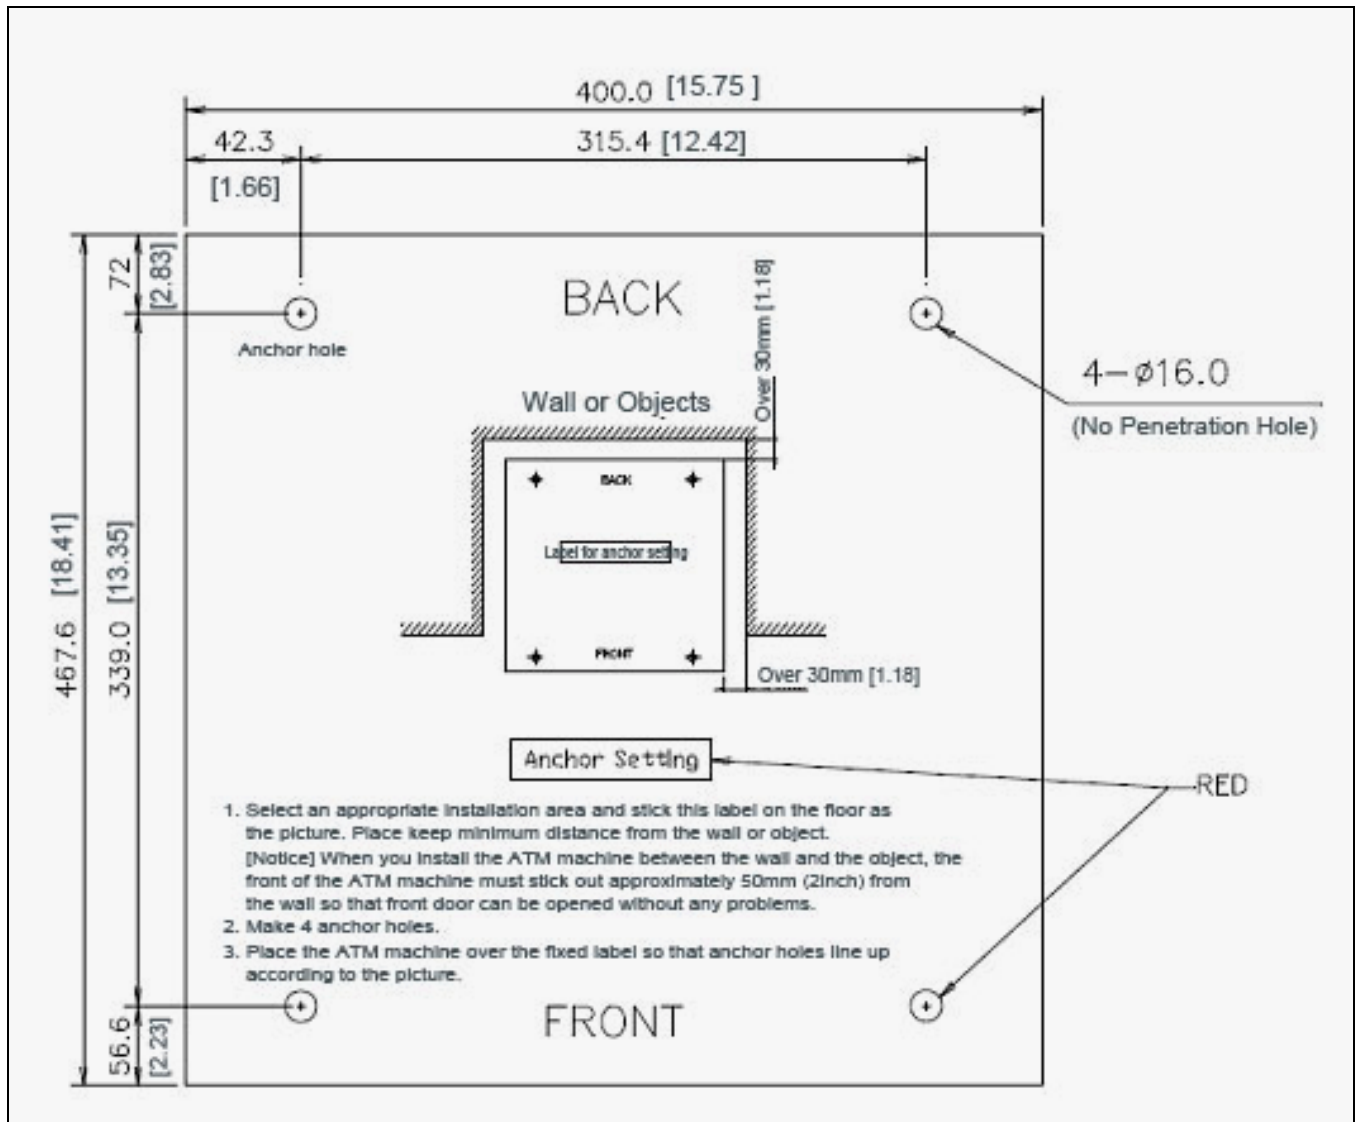

Fig. 6.3 Anchor diagram of NH-2700 ATM
- 1) Place the “Anchor bolts locate sheet” at the place where the machine is to be installed. (refer to Fig. 6.3)